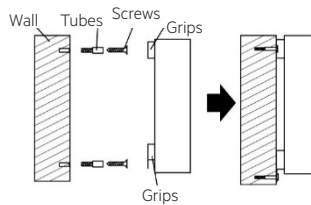

Fig. 4
3. Set up grips with screws (fig. 4).